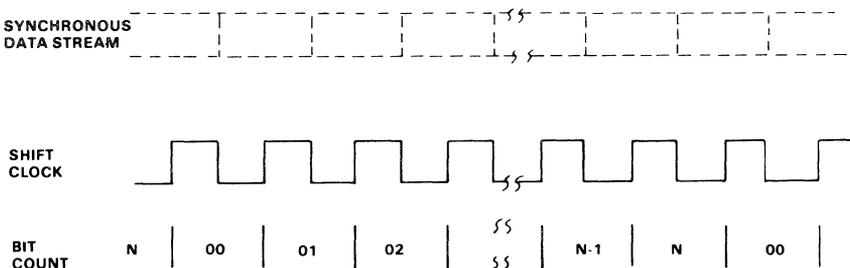

Figure 9
An illustration of synchronous receive timing is shown in Figure 9. This diagram is a synchronous receive sequence for a word which is N bits in length, where N corresponds to the number of bits which have been programmed into the Serial Port Control Register. Note the relationship of SHIFT clock, the synchronous data stream, and the bit count. Since the START DETECT bit is not enabled, the serial port logic will continuously shift data in and generate end-of-word conditions at regular intervals. When the end-of-word condition occurs, a serial port receive interrupt occurs if it has been enabled, and the contents of the Shift Register will be loaded into the Receive Buffer. The serial port logic will set the READY flag in the Serial Port Status Register, indicating that the receive buffer is full. Since the serial port is double-buffered on receive, the program has entire word time to read the Receive Buffer. At 9600 bps this corresponds to a word time of  $N \times 104 \mu\text{s}$ , where N is the number of bits in a word.
Figure 9 illustrates serial output timing relationships in the Synchronous mode. Data is shifted to the right on each rising edge of the internal SHIFT clock. Output data is not enabled to the SERIAL OUTPUT pin (SO) until the falling edge of the SHIFT clock. In a 16 bit data word, SR0, the least significant bit of the Shift Register is shifted out first, and SR15, the most significant bit of the Shift Register, is shifted out last. While the Shift Register contents are being output on a bit by bit basis, data is simultaneously shifted into the Shift Register through the SI pin.